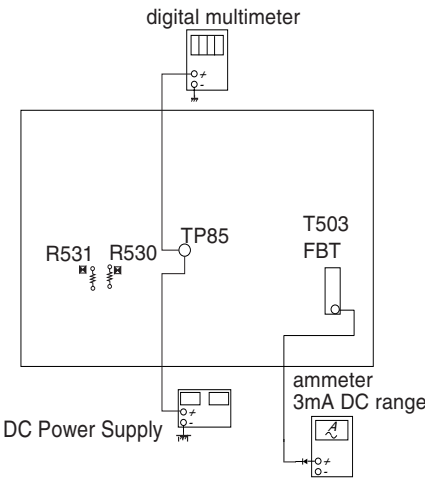

Figure 1
- 1. Connect the current meter between Pin 11 of the FBT (T503) and the PWB land where Pin 11 would normally attach. (See Figure 1).
- 4. Connect the digital voltmeter and the DC power supply to TP85 and ground. (See Figure 1).